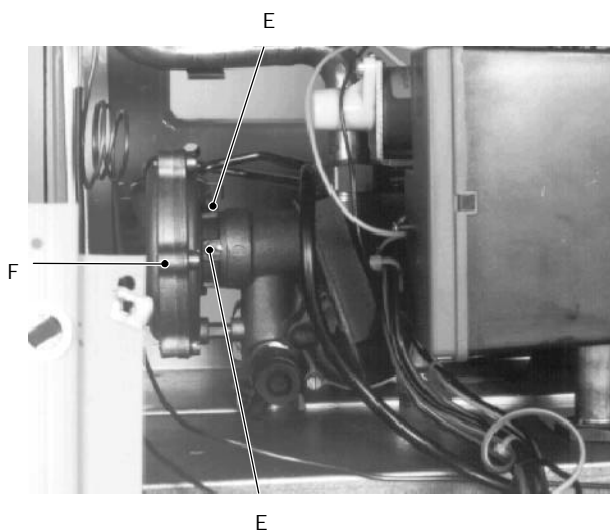

fig. 26
- 3 Loosen the screws *E* and remove the hydraulic actuator *F* (fig. 26).